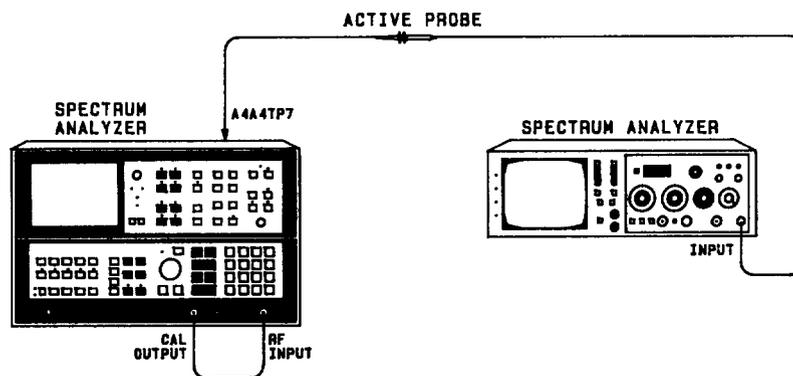

FIGURE 36. DOWN/UP CONVERTER ADJUSTMENTS SETUP
1. Position instrument upright as shown in Figure 36 and remove top cover.
9. Connect spectrum analyzer to A4A4TP7 using an active probe. Refer to Figure 36 for test setup.